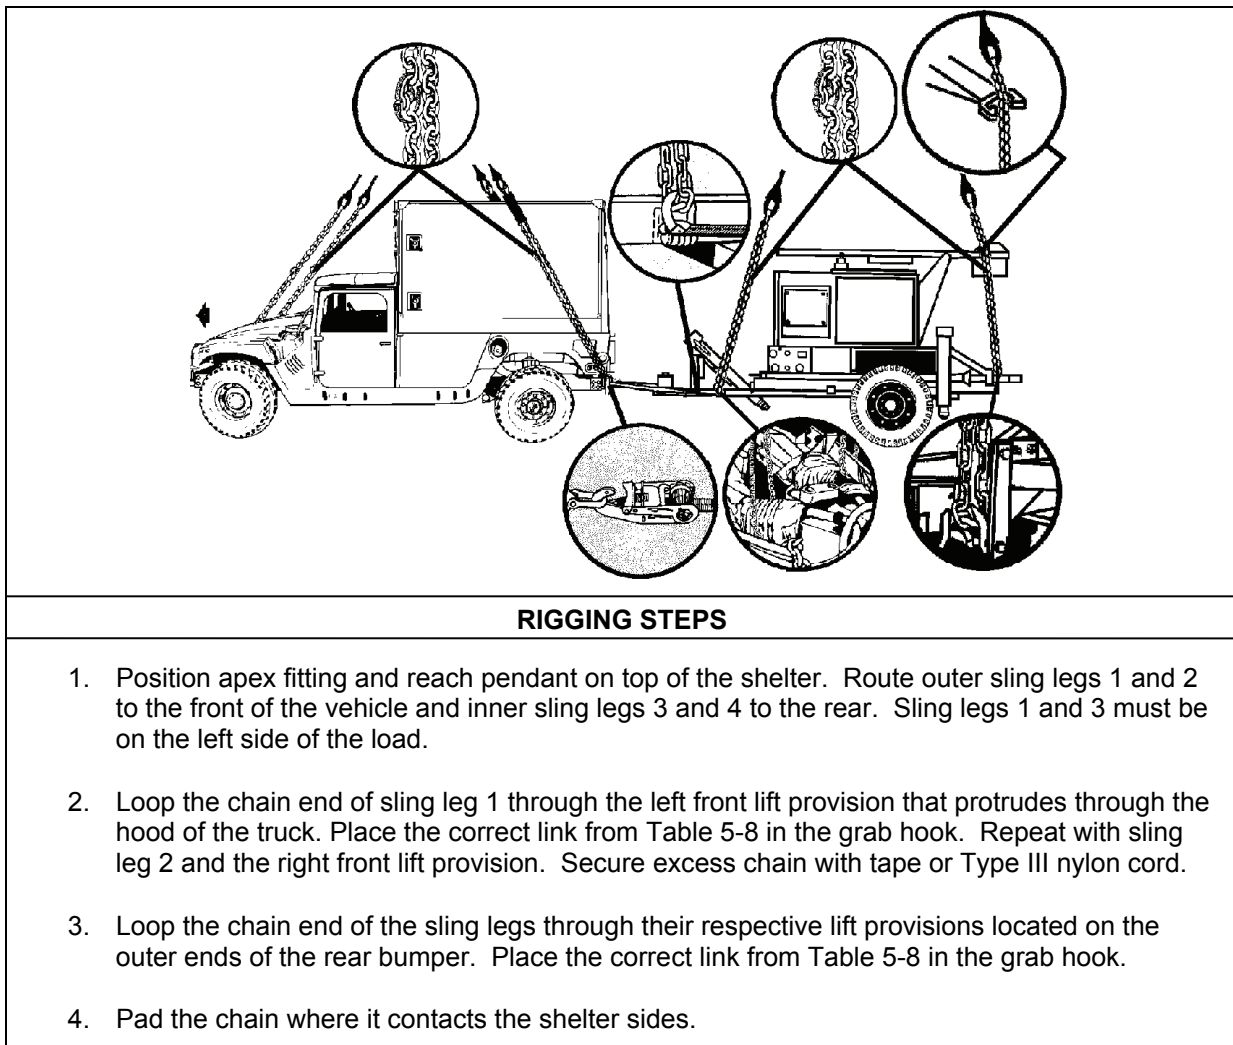

Figure 5-8. M1037 Shelter Carrier, 1-1/4 Ton with AN/TPQ-36, (S-250 Shelter), Operations Control Group and Radar Set Antenna Mounted on M103A1 Trailer
- **Rigging.** Rig the load according to the steps in Figure 5-8.
Figure 5-8. M1037 Shelter Carrier, 1-1/4 Ton with AN/TPQ-36, (S-250 Shelter), Operations Control Group and Radar Set Antenna Mounted on M103A1 Trailer (Continued)